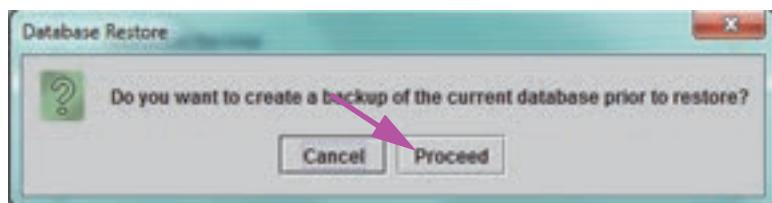
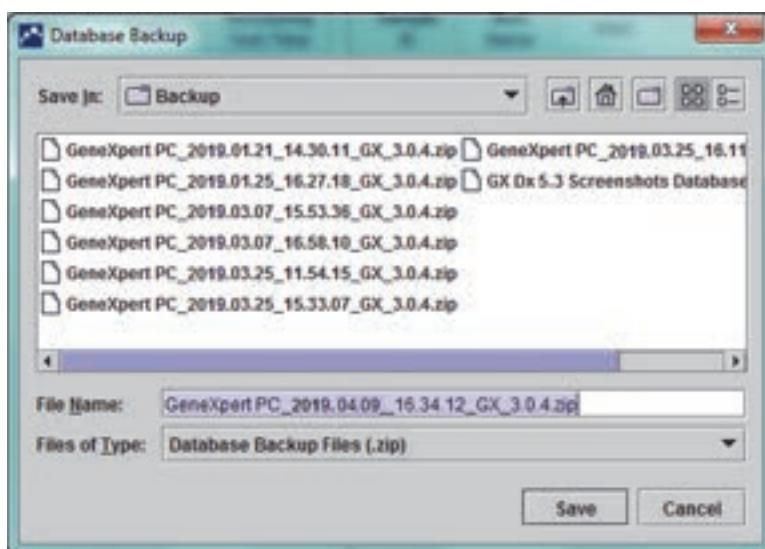

Figure 5-77. Database Restore Dialog Box
Figure 5-78. Database Backup Dialog Box
2. Click **Proceed**. A dialog box appears asking if you want to back up the current database (recommended) before restoring. See Figure 5-77.
3. Click **Proceed** in the Database Restore confirmation dialog box to continue with the database backup (see Figure 5-77). The Database Backup dialog will be displayed. See Figure 5-78.
4. Locate and select the folder in which you want to store the backup file, type a name for the backup file (or use the default filename) and click **Save**. See Figure 5-78.